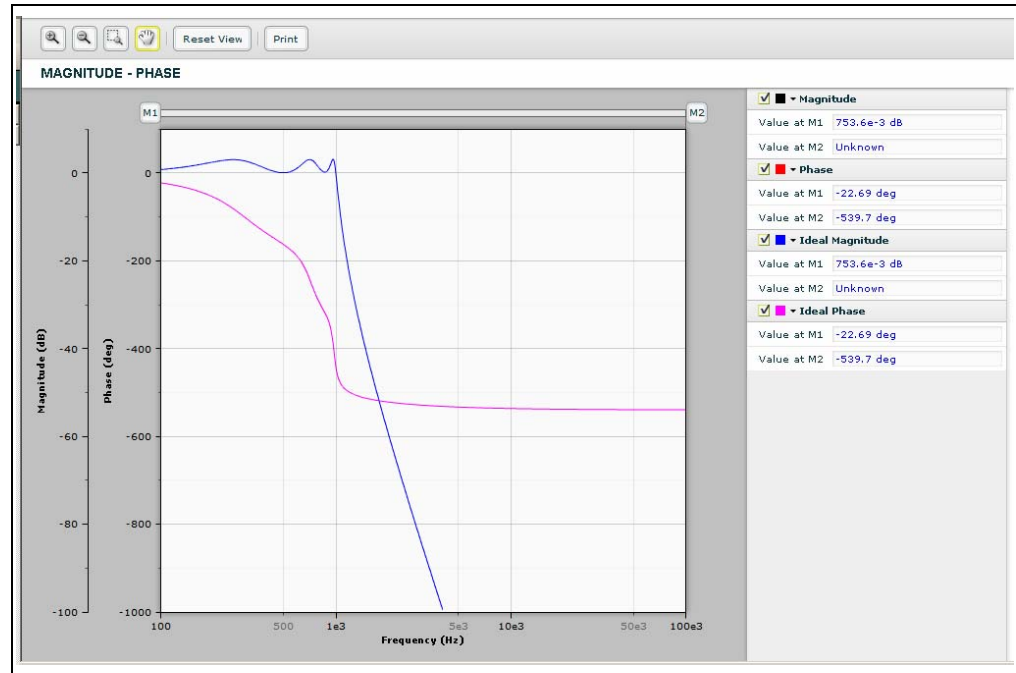

FIGURE B-7: *Magnitude - Phase Response with Chebyshev Approximation.*
- Amplitude variation (ripple) in the Pass-band, but steeper roll-off above the pass-band frequency than Butterworth and Bessel (Figure B-7)
The magnitude - phase response of the 6th order Low-pass filters with Chebyshev approximation is shown in Figure B-7.